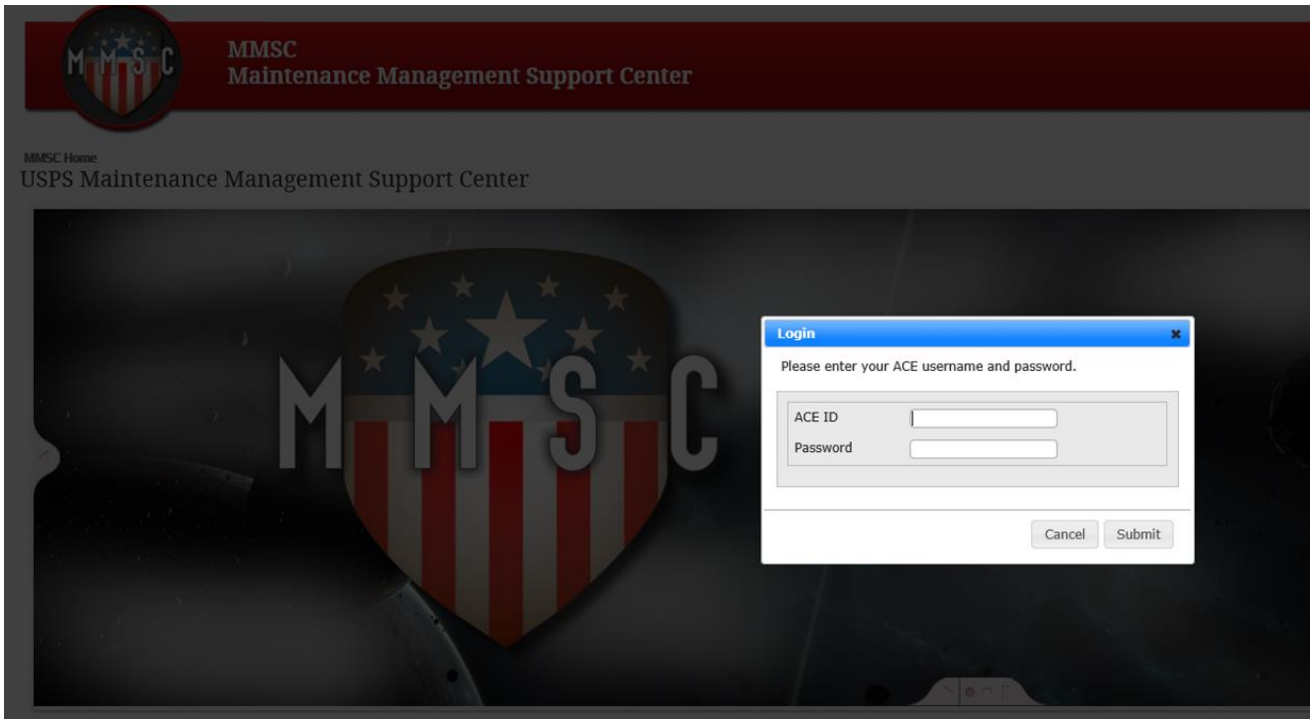

Figure 5. MMSC Site Login
c. Log into the MMSC site with ACE ID and password (Figure 5).